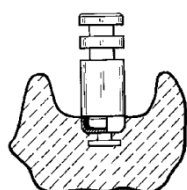

Fig. D2
4. Snap a LOCATOR® Female Analog (4mm or 5mm) onto each Impression Coping in the impression. The Female Analog must not fall off when turned upside-down with vibration. (Fig. D2)